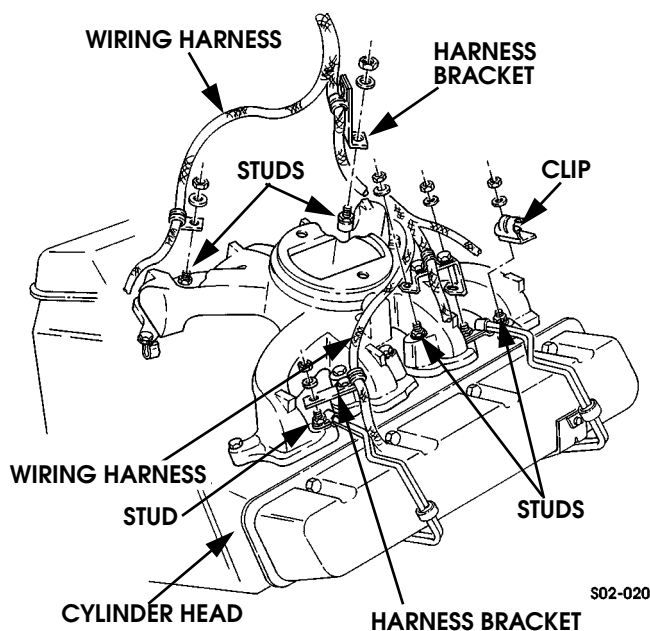

Figure 2-36: Wire Harness Attachment
20. Apply bead of anaerobic sealer, such as Loctite 510, to water pump and adapter plate. Refer to Figure 2-36 for sealer application.
4. Remove nuts and washers attaching harness brackets (Figure 2-36) and barometric pressure sensor bracket to intake manifold studs.